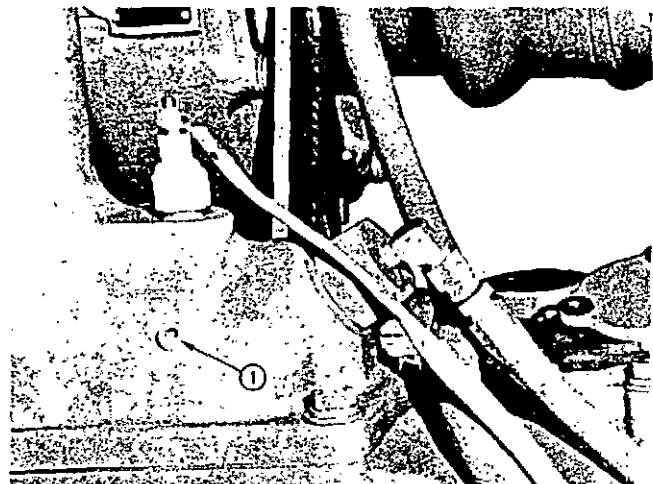

Fig. 2-4, N11949. Glow plug inspection hole plug
1. If the engine gives no indication of starting during the first three full strokes of the preheater pump, touch-check the intake manifold for heat. If there is no heat, check electric wiring. If wiring is all right, remove 1/8 inch pipe plug from manifold near glow plug and carefully check for flame while a helper performs the preceding Steps 2, 3 and 4. See Fig. 2-4.